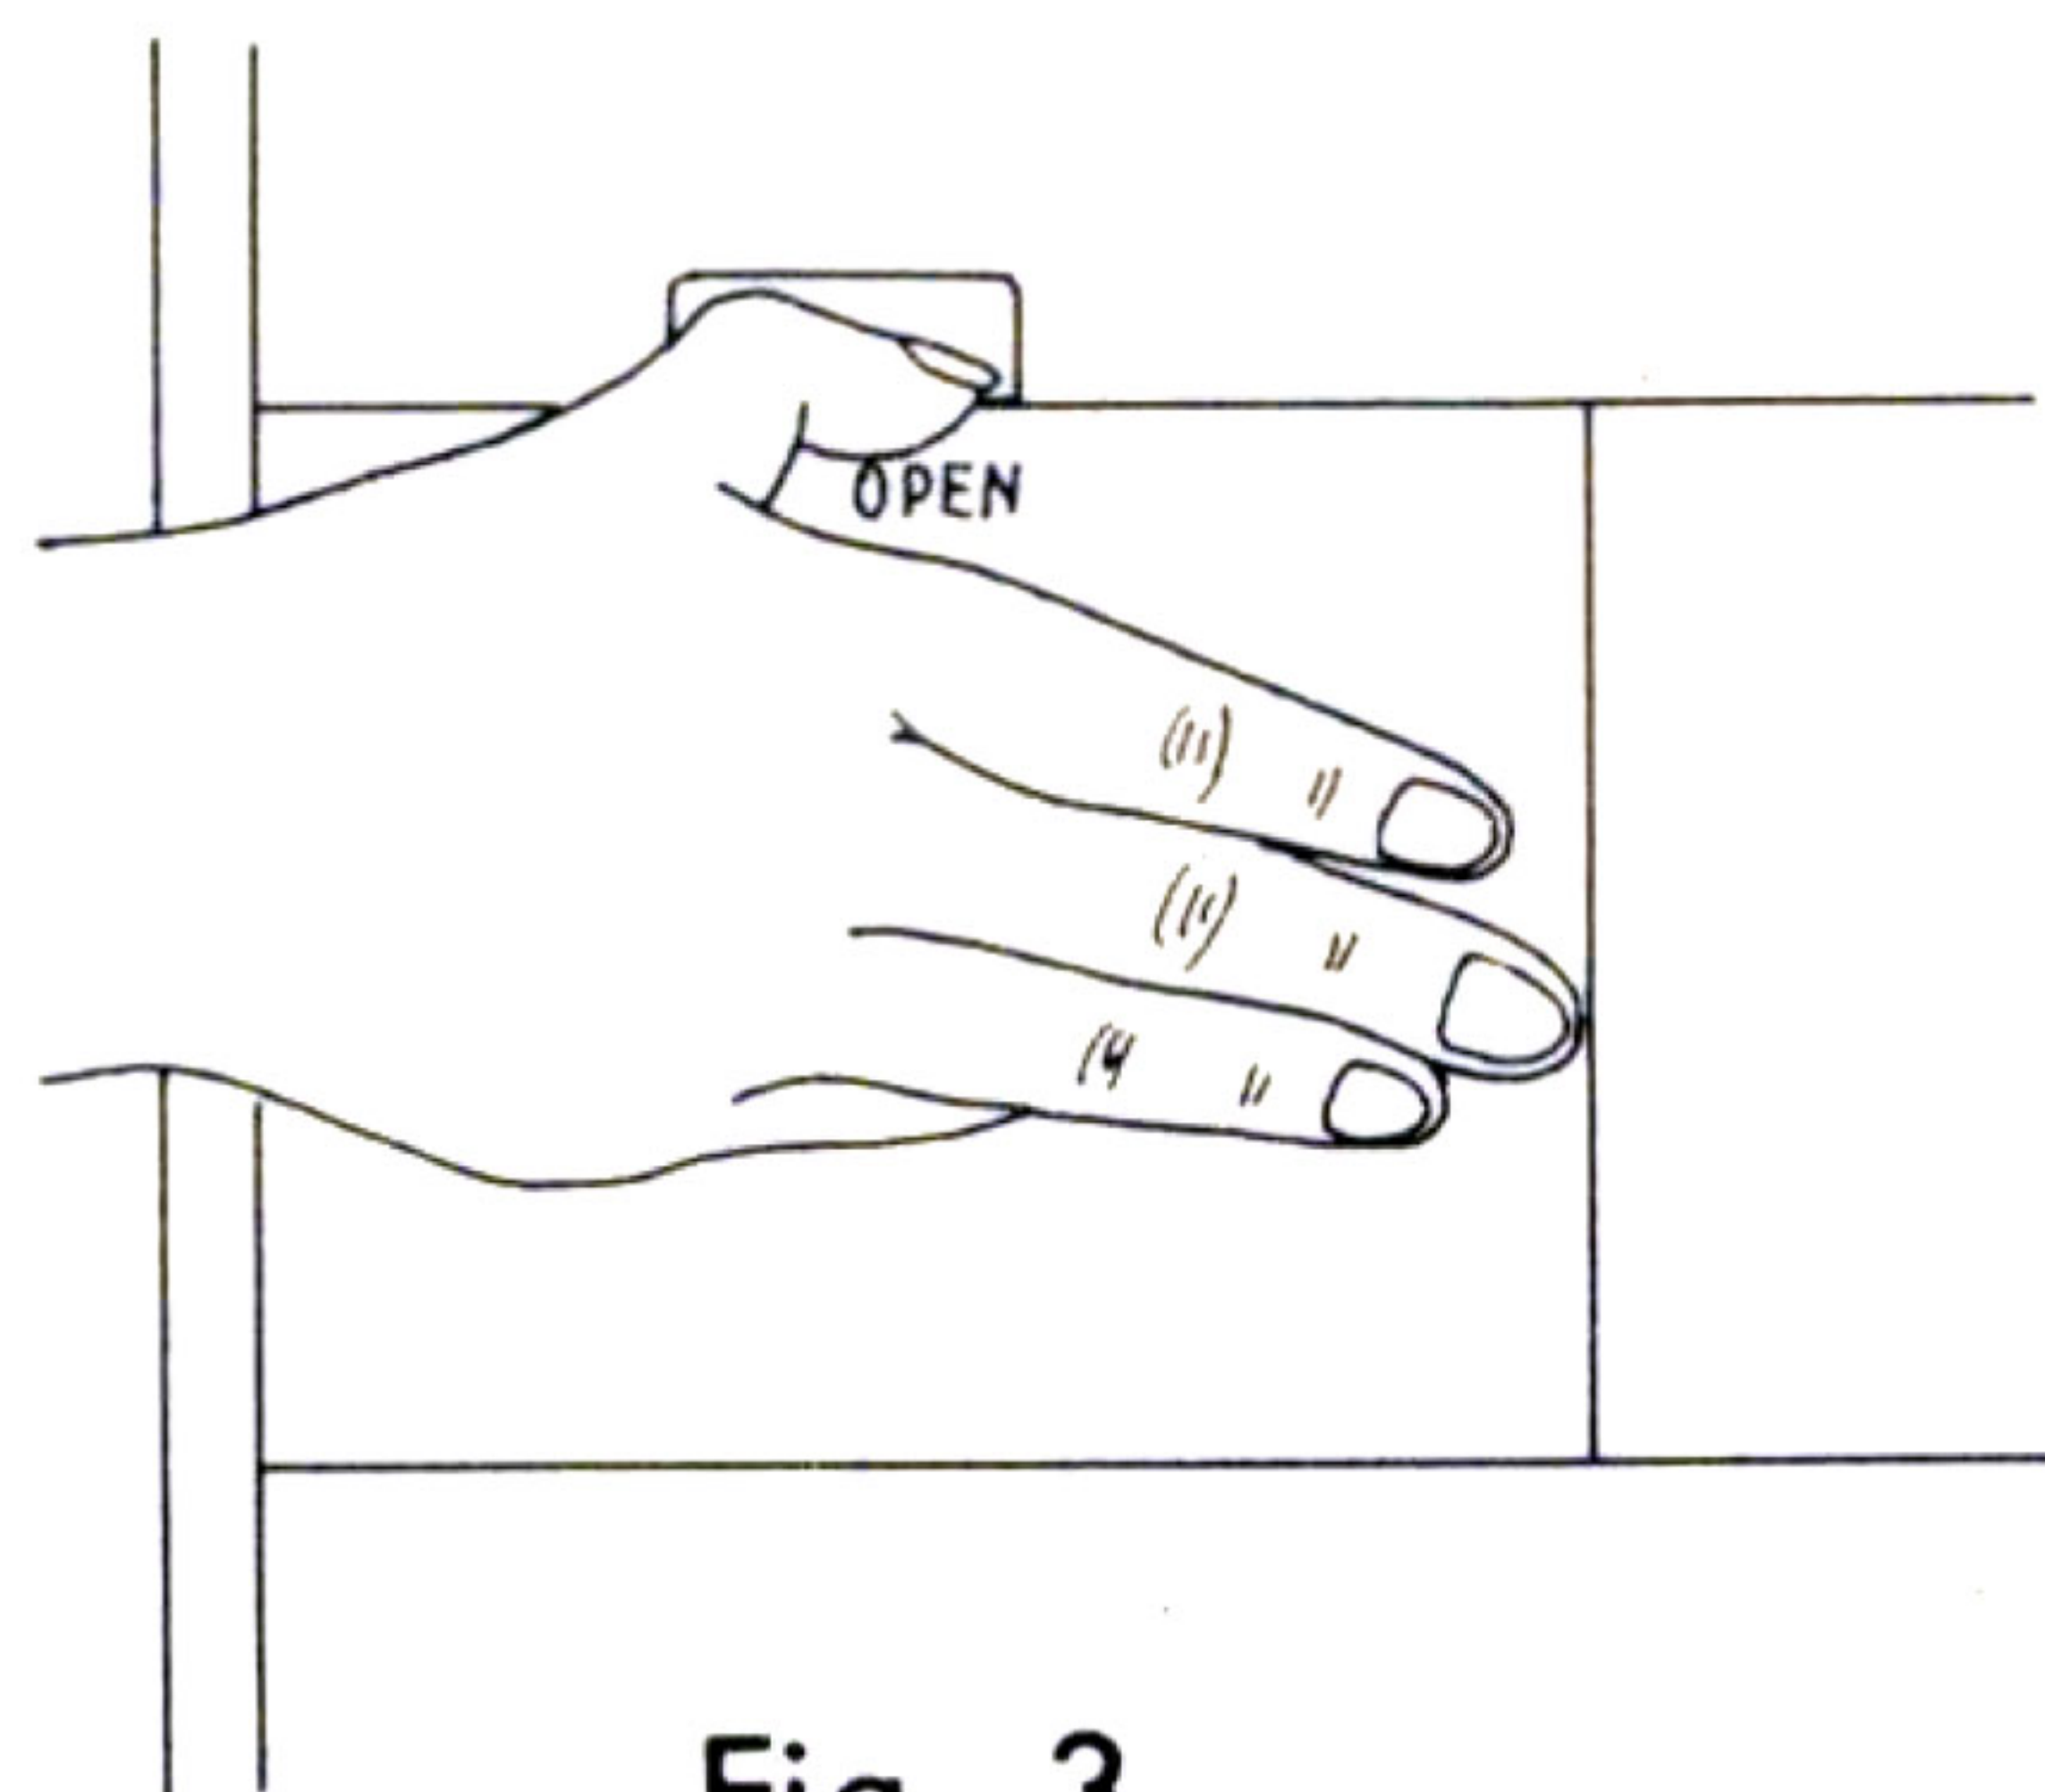

Fig. 3
- Remove AC line cord compartment cover. (Fig.3)